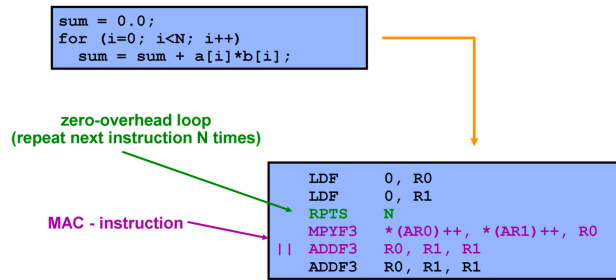

Abbildung 2: Multiply & accumulate
- parallel instruction processing (MAC fig. 2)